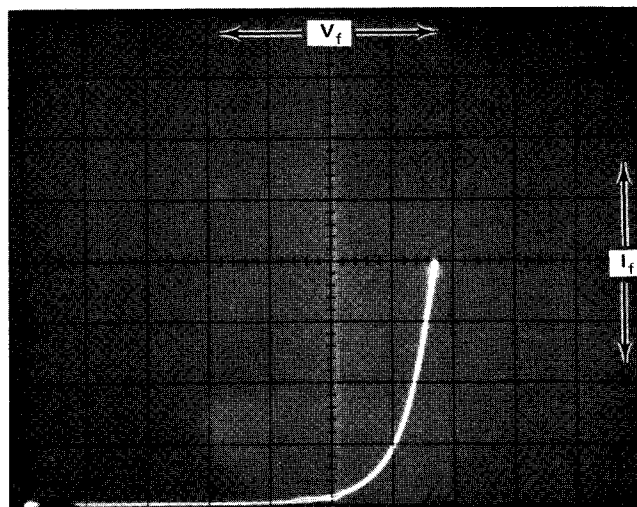

Fig. 7. Typical diode forward voltage characteristic.
13. Set the LEFT-RIGHT switch to RIGHT and turn the VARIABLE COLLECTOR % control clockwise until the diode forward voltage characteristic is displayed (see Fig. 7).